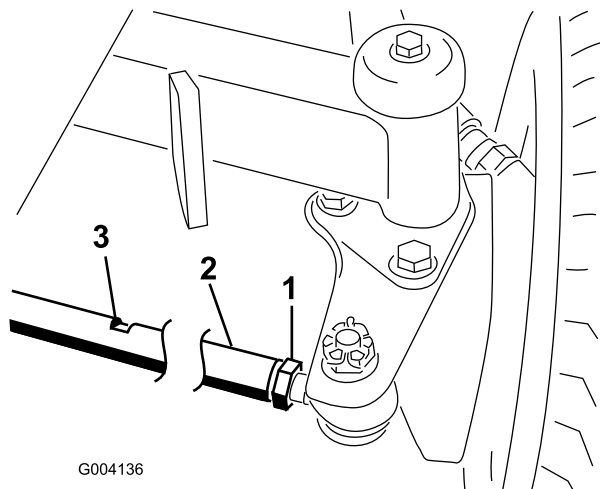

Figure 70
2. Loosen the jam nut on each end of the tie rod (Figure 70).